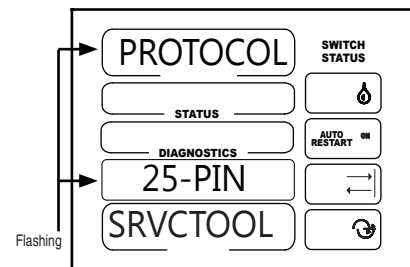

Figure 38-2
Settings include REM CTL (remote control), GPS V1, GPS V2, REMCTLV2, and SRVCTOOL (service tool). The default is REM CTL. See figure 38-2.
1. PROTOCOL 25-PIN should be flashing. See figure 38-2.